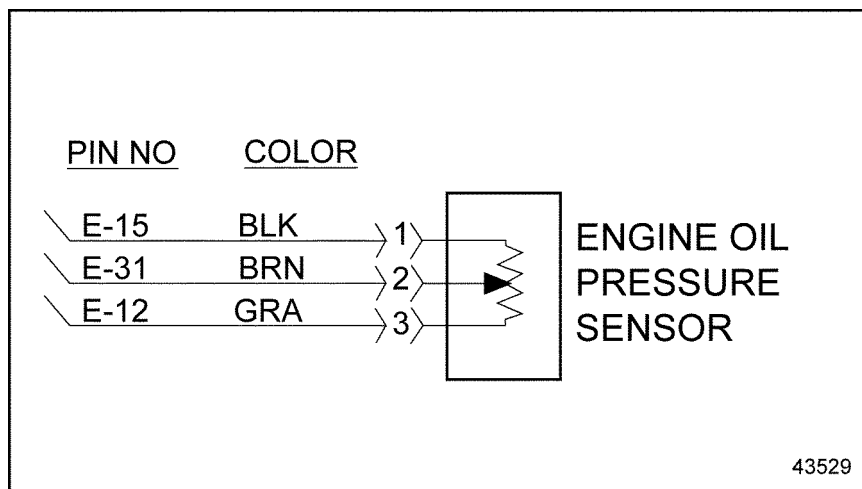

Figure 38-2 Engine Harness Connector to Engine Oil Pressure Sensor
3. Install a jumper wire between pin 1 and pin 2 of the OPS/EOP Sensor harness connector. See Figure 38-2.